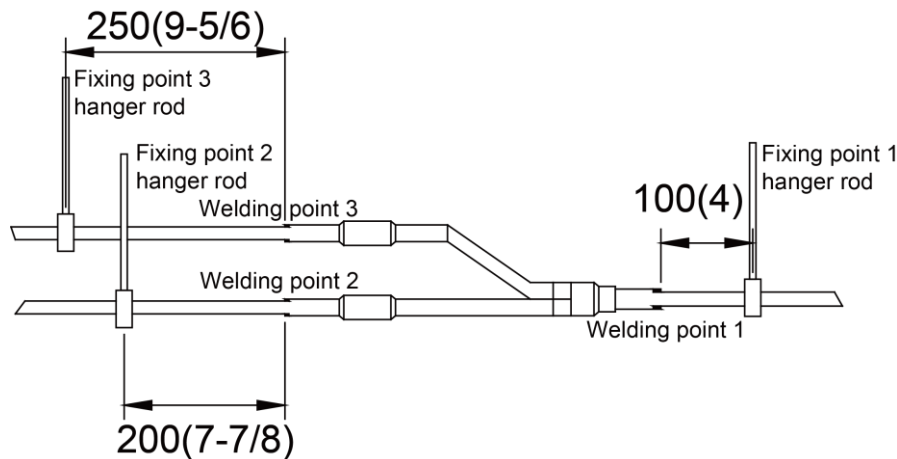

Fig.27
(3) There must be three fixing point for both horizontal and vertical installation of the Y-type manifold. See Fig.27.